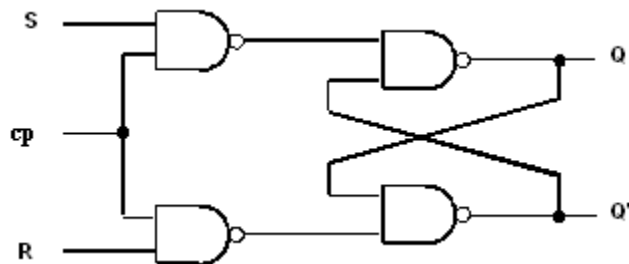

Figure 2
9. Connect the circuit shown in Figure 2. Notice that this implementation is different from the previous one in that S feeds into the gate whose output is Q and R feeds into the gate whose output is Q'. (Note: There is Clock pulse)
10. When Enable=1 enables the S and R inputs. To see what this means, set enable high and verify that the circuit works exactly like the circuit of Figure 2.